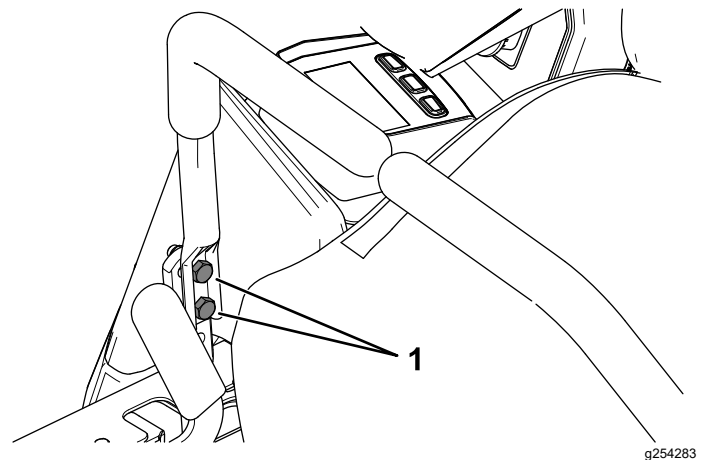

Figure 48
10. If alignment is needed, loosen the 2 motion-control lever mounting bolts on the misaligned side (Figure 48).
12. Tighten the 2 motion-control lever mounting bolts (Figure 48).